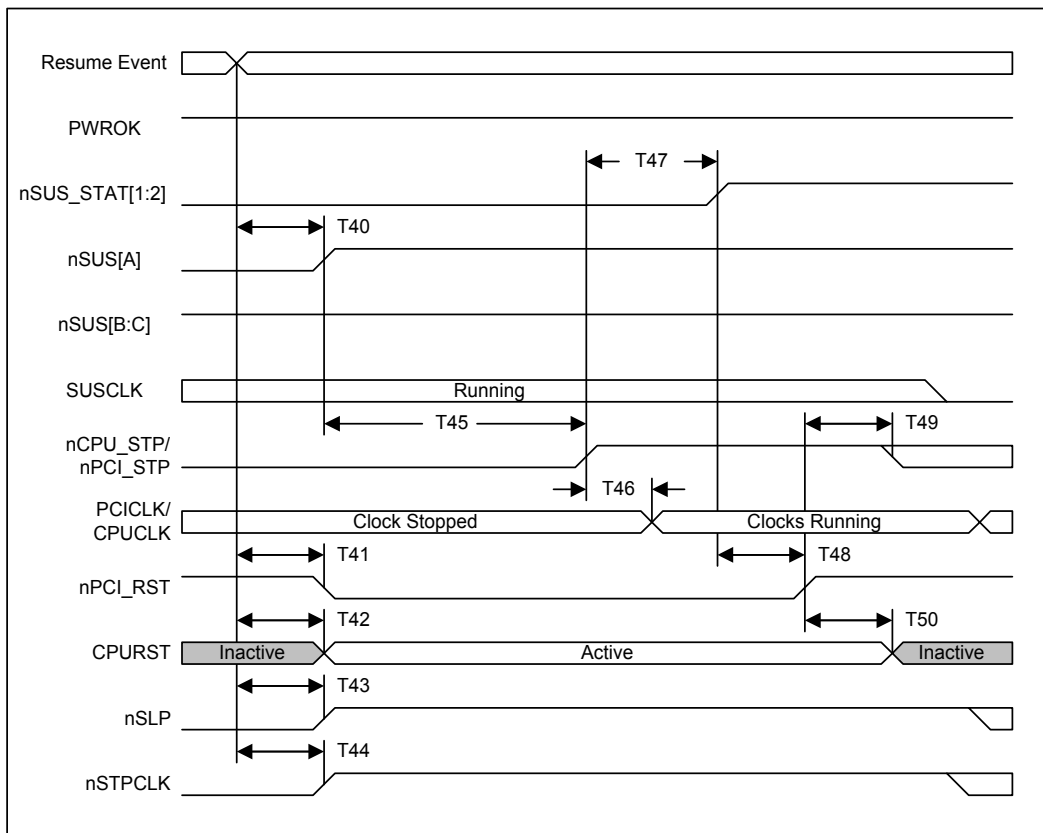

FIGURE 20 - POS TO ON (W/ PROCESSOR & PCI RESET)
**Note 2:** There are no specific requirements for these timings related to the SLC90E66. As a minimum, the clocks must be available and stable after time t30 in Figure 20.
FIGURE 20 shows the signal transitions from Power On Suspend to On with a full system reset.